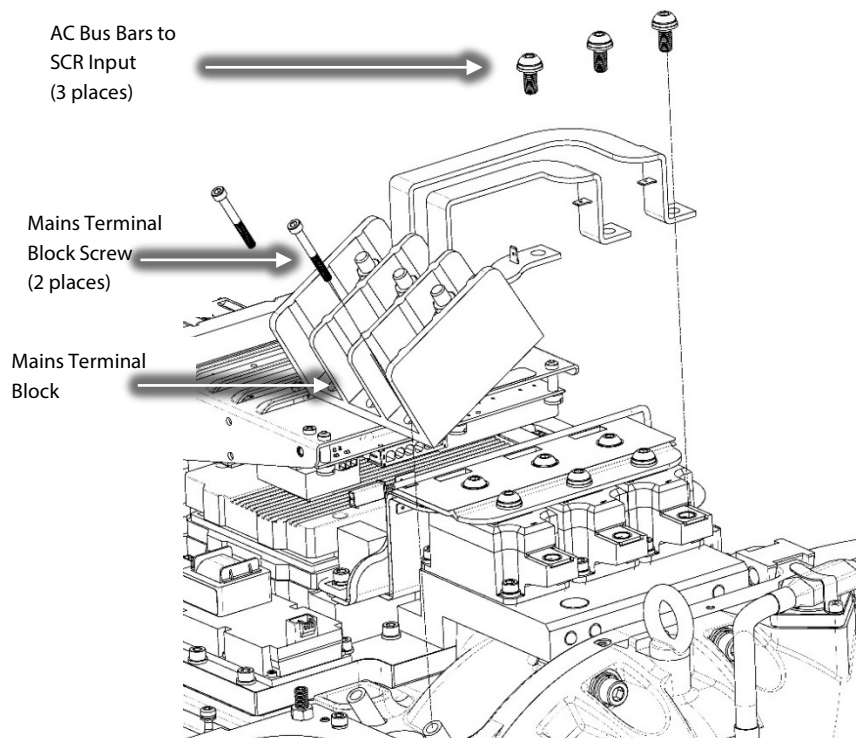

Figure 7 – AC Mains Input Terminals and Bus Bar Removal
- Remove the AC Mains Input Terminals and Bus Bars. Refer to Figure 7 (AC Mains Input Terminals and Bus Bar Removal).